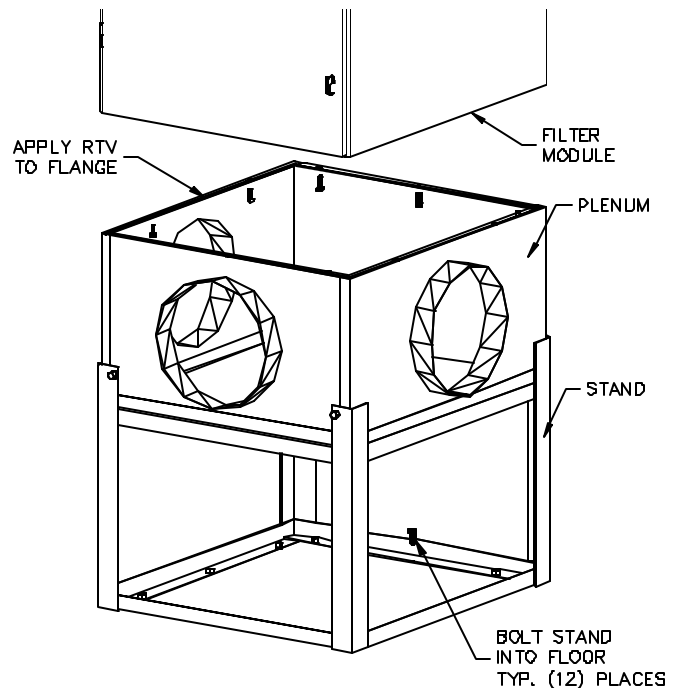

Fig. 1
2. Bolt the floor stand securely to the floor (See Fig. 1.)
4. Secure the unit to the stand, using the provided 3/8" hardware. seal with RTV sealant. (See Fig. 1.)